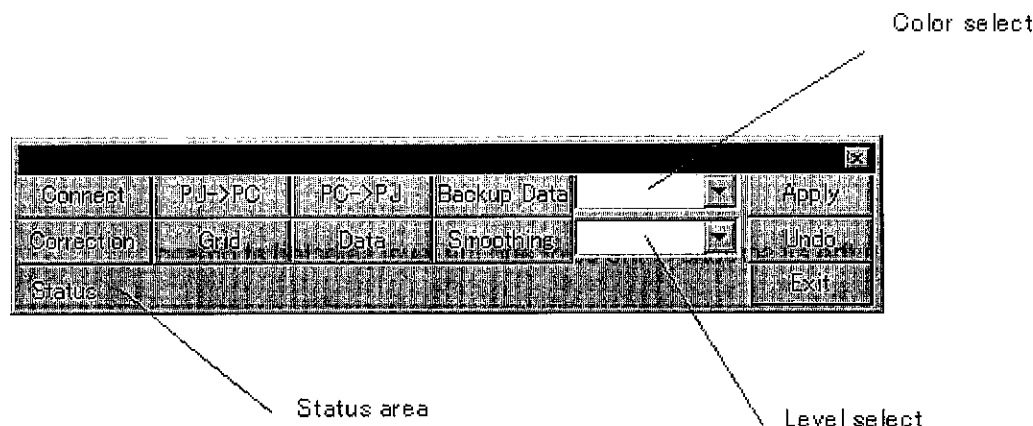

Figure 1. Control window
6. Control window (Figure 1) is displayed on the screen of PC.